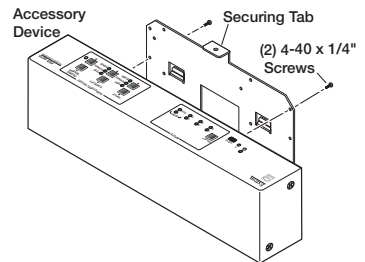

Figure 2. Attach the Plate to the Device
2. Place the bracket kit mounting plate flat against the accessory device base with the small securing tab over the front panel (see figure 2).
3. Align the corresponding holes on the plate with the two mounting holes in the device base and secure the plate to the device using the two 4-40 x 1/4 inch pan head screws (see figure 2).